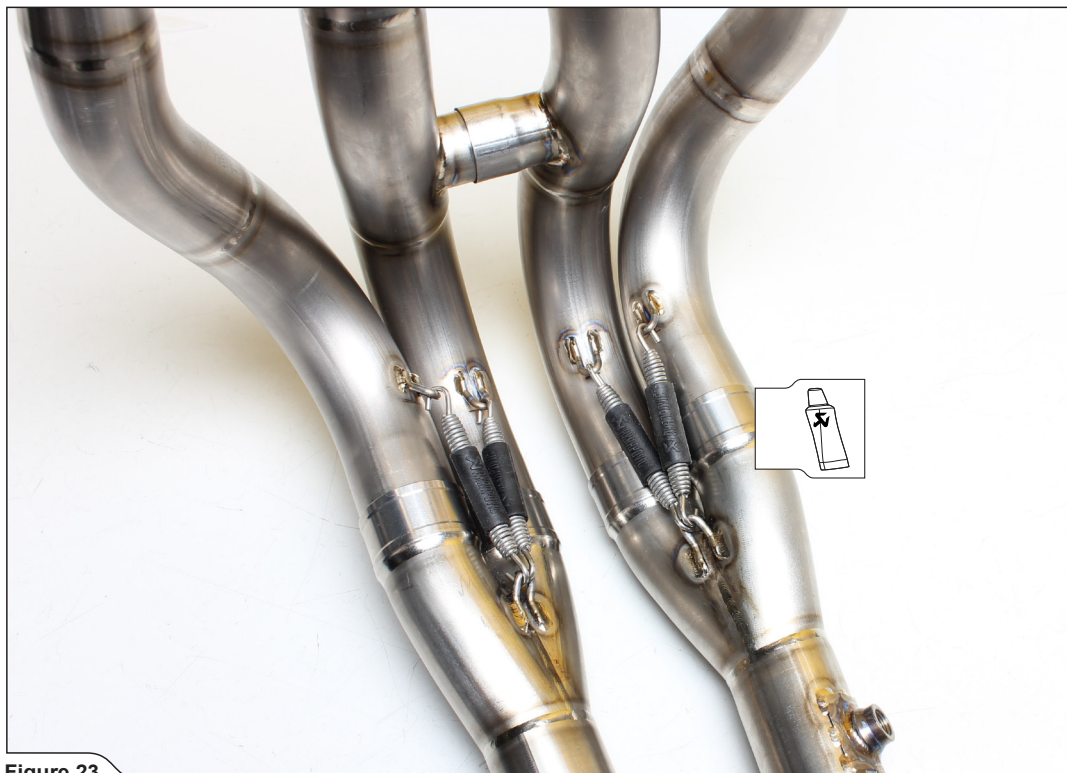

Figure 23
2. Slide the collectors onto the header tubes and attach the springs (**Figure 23**).